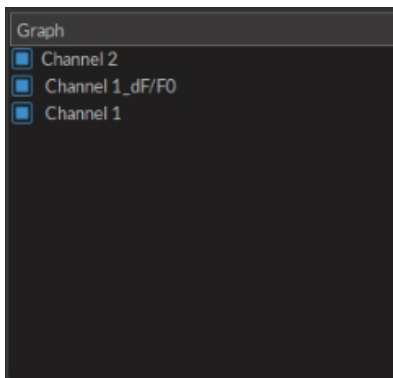

Figure 4.17: Show/Hide Graph(s) Window
- The **Toggle graphs** button opens the **Show/Hide Graph(s)** window (Fig. 4.17). The list in the window is used to toggle current graphs on or off.